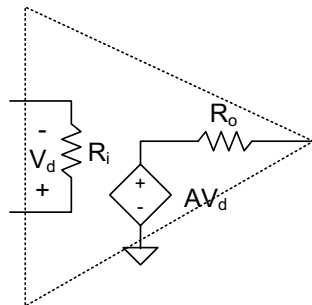

Figure 2- $R_i=150k\Omega$, $R_o=250\Omega$, $A=5500$
a. (7p) Implement the circuit in PSPICE containing OPAMPS shown below (Figure 2). Determine the output voltage when $V_{in} = ((SIG +) - (SIG -))$ varies between -5V and 5V.